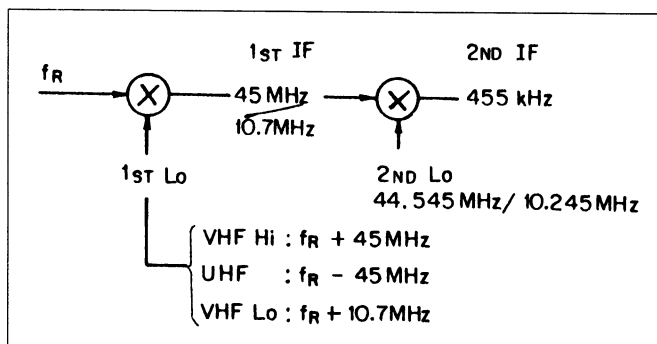

FIGURE 9 - FREQUENCY RELATIONSHIP DIAGRAM
- a. **Level Diagram:** A Frequency Relationship Diagram is shown in Figure 9 and a Typical Level Diagram is shown in Figure 10.
- d. The signal from the Radio Board is applied to the Control Board at P101-4 and then to the speaker through A8-C, A3, A6-A and A4. Check distortion at each point shown in Figure 9.